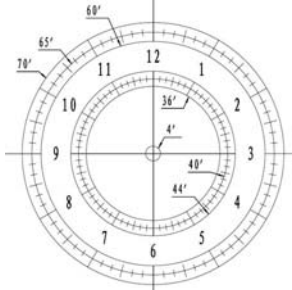

Figure 14
- (1) Thread the dark field illuminating LED into the thread-in hole on a polar scope. Plug the LED cable into the Reticule socket located on the RA unit. Turn the mount power on. Use Hand Controller (“**Settings**” => “**Set Eyepiece Light**”) to set the illumination intensity.
- (2) Use the “▲” or “▼” button to turn the DEC axis to unblock the Polar Scope view (there is a hole on the DEC axis). You may loosen the DEC clutch to turn the DEC axis without rotating the telescope;
- (3) Use the “◀” or “▶” button to turn the RA axis to rotate the Polar Scope dial to a clock position where 12 is at the top, as shown in **Figure 14**. You may release the R.A. Locking Screws and hold the OTA while turning the R.A. axis;